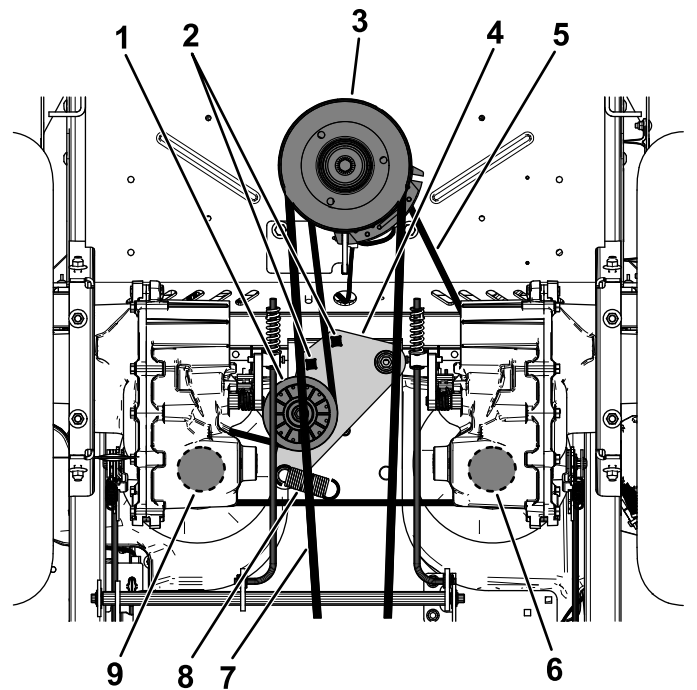

Figure 80
5. Use a 1/2-inch ratchet or breaker bar in one of the square holes in the idler arm to remove tension on the idler spring (Figure 80).
6. Remove the existing belt from the idler pulley, 2 hydraulic-pump-drive pulleys, and engine pulley (Figure 80).
7. Install the new belt around the idler pulley, engine pulley, and 2 hydraulic-pump pulleys (Figure 80).